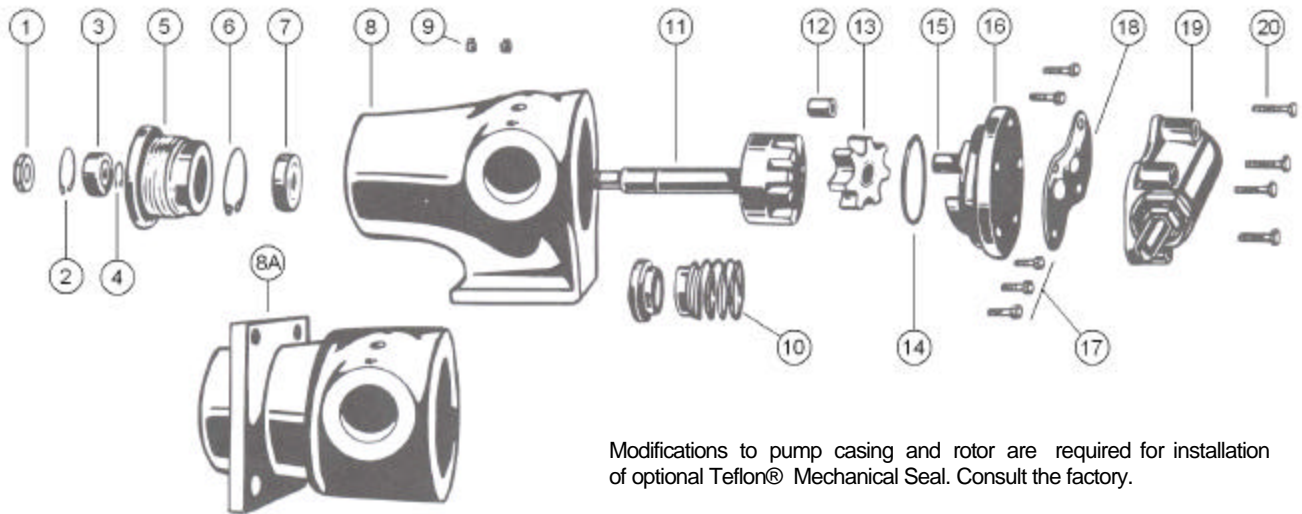

FIGURE 7 – EXPLODED VIEW MODELS GG, HJ and HL 4195 and 495
1. Refer to figures 7 & 8 page 4 for model to be disassembled and name of parts. Models 4195 & 495 are disassembled and assembled the same. The difference between these models is the casings.